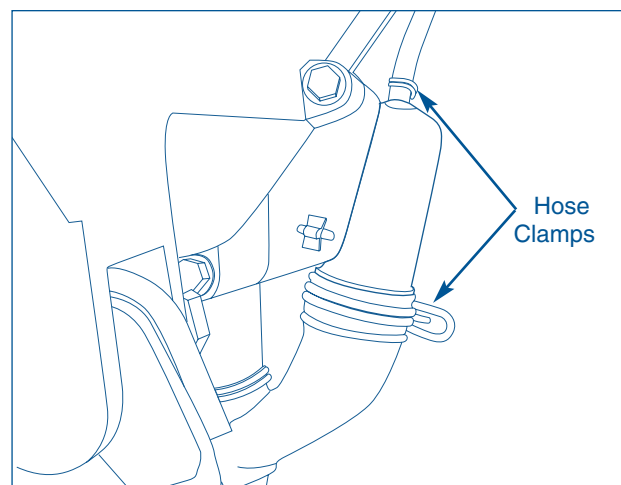

Figure 4-54.
2. Using a pliers, compress the hose clamps from the inlet and outlet hoses and disconnect from air bell. (See Figure 4-54)